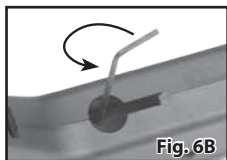

Fig. 6B
5. Using a 3/32" Allen Wrench, loosen the bleed screw by rotating counter-clockwise for a maximum of 1½ full turns (FIG. 6B).